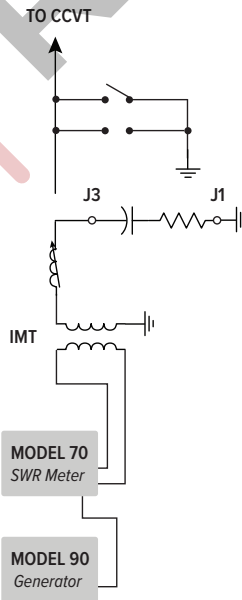

FIG 4 - SERIES INDUCTOR TEST CONNECTIONS
7. Connect the Model 730 test box red terminal (J3) to the output of the series inductor and the black terminal (J1) to ground (See Fig. 4). This connects the test box for resistance and capacitance.